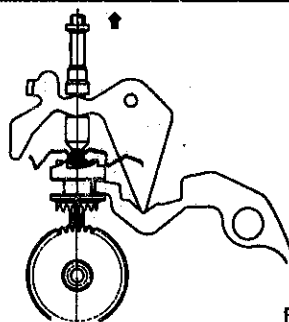

Fig. 2
- ☆ 884008 (Refer to fig. 2) Used for the screw back or snap back waterproof case with the dial of 27.50mm ~ 28.50 ϕ mm external diameter.
- ☆ 884009 (Refer to fig. 2) Used for the screw back or snap back waterproof case with the dial of 29.50mm ~ 30.50 ϕ mm external diameter.
First click — Date correction (revolving system) (Fig. 2)